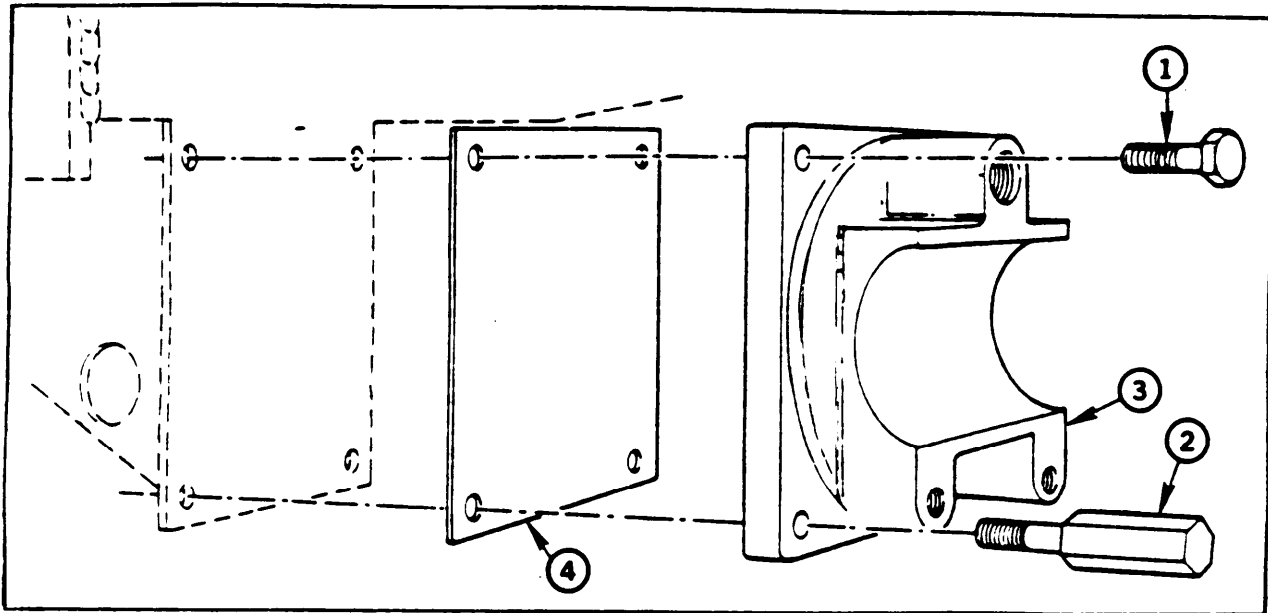
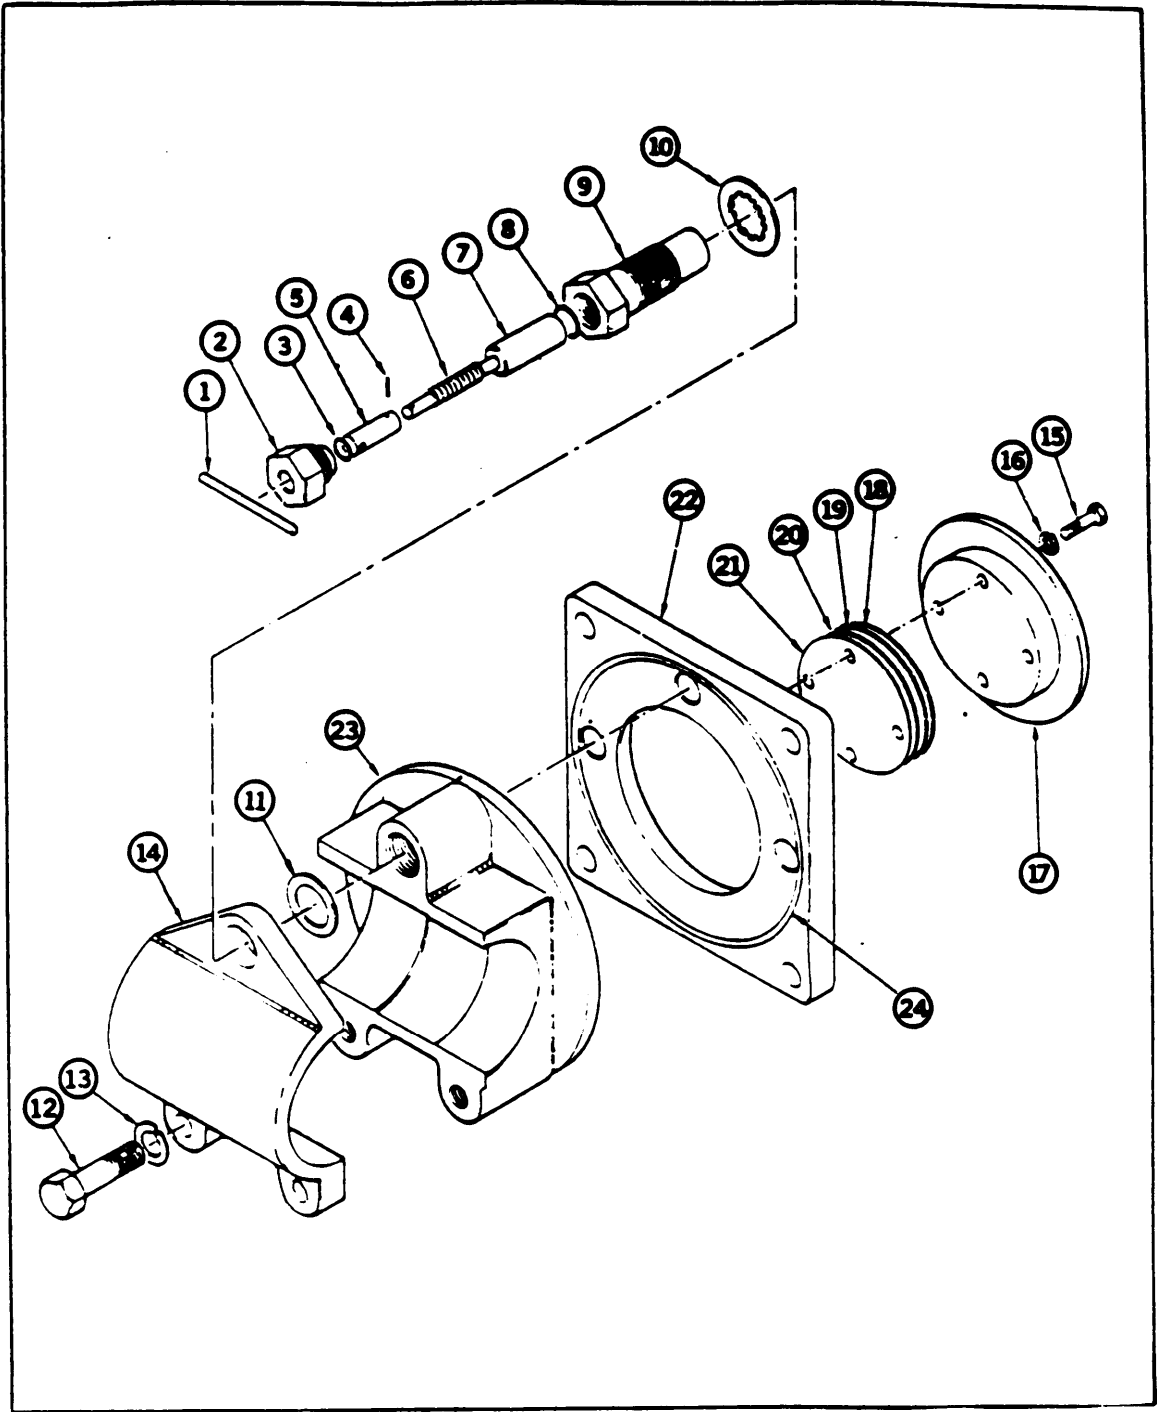

Figure 3-58. Trailer Swivel Assembly (ARMY)
Figure 3-59. Trailer Swivel (ARMY)
b. Removal. (Figure 3-58).
- (1) Refer to paragraph 2-23 and remove leveling jack assembly.
- (2) Remove screws (1) and jack stop stud (2) attaching swivel assembly (3) to trailer frame and remove gasket (4).
c. Dissassembly. (Figure 3-59)
- (1) Place swivel assembly on a clean dry workbench.
- (2) Remove spring pin (1), then unscrew pin housing (2) and remove packing (3).
- (3) Remove spring pin (4), pin sleeve (5), and spring (6).
- (4) Remove pin (7) and packing (8) from spring pin housing (9).
- (5) Remove spring pin housing (9), washer (10), and gasket (11).
- (6) Remove screws (12) and lock washers (13) and remove cap (14).
- (7) Turn swivel assembly over a workbench and remove screws (15) and lock washer (16).
- (8) Remove plate (17) and shims (18) through (21) from base plate (22).
- (9) Separate base plate (22) and base (23), and remove packing (24).
- (1) Inspect pin (7) for cracks or damage. If cracks or damage are visible, replace pin.
- (2) Inspect base plate and base for signs of wear. Replace worn part.
e. Assembly (Figure 3-59).
- (1) Perform assembly of swivel assembly on a clean dry workbench.
- (2) Install packing (24) in baseplate (22) and position base (23).
- (3) Position cap (14) on base (23) and install lock washers (13) and screws (1 2), finger tight.
- (4) Install packing (8) and pin (7) in spring pin housing (9) and place spring (6) over end of pin (7).
- (5) Position pin sleeve (5) on pin (7). Align holes and install spring pin (4).
- (6) Install packing (3) in pin housing (2), then screw pin housing (2) into spring pin housing (9).
(10) Install shims (18) through (21) as required. Shim thicknesses are: red .0020, tan .0040, natural .0075, and brown .0100.
(11) Aligning screw holes, position plate (17) to base plate (22) and install lock washers (16) and screws (15).
(12) Check to be sure assembly will swivel and lock into position. If not, repeat steps (10) and (11), but remove shims as required. Continue the procedure until assembly will swivel and lock into position.
(13) Lubricate in accordance with Lubrication Order, LO 10-4610-215-12.
f. Installation. (Figure 3-58)
(1) Position swivel assembly (3) and gasket (4) to trailer frame.
(2) Install screws (1) and jack stop stud (2), torque screws (1) and jack stop stud (2) to 45-55 ft. lbs.
(3) Refer to paragraph 2-23 and install leveling jack assembly.